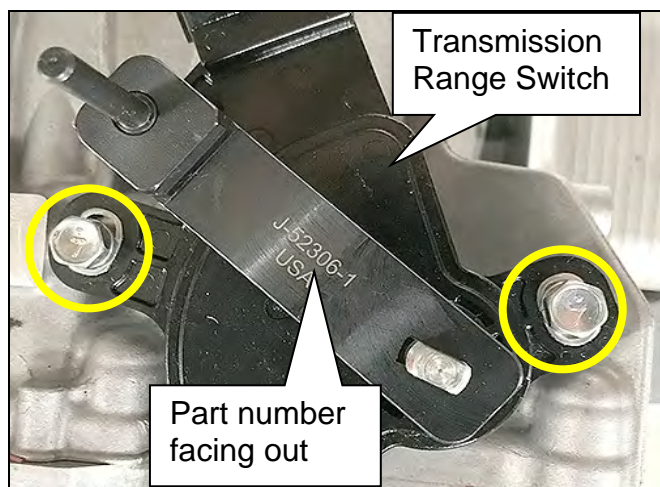

Figure 3W
- b. Attach the combined alignment tool onto the manual shaft as shown in Figure 3W with part number facing out.
- c. Install the two original bolts for the transmission range switch (Figure 3W).